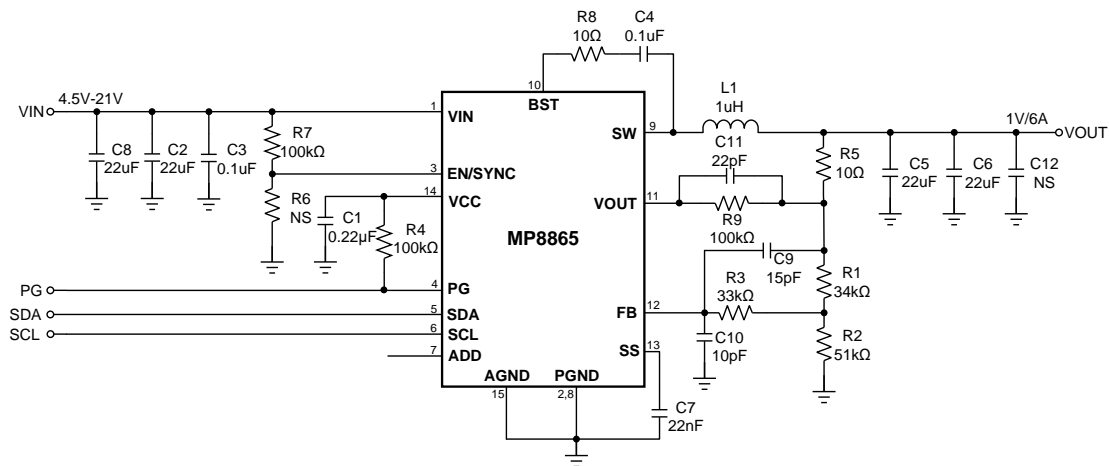

Figure 15. 12V Input-1V/6A Output
- 11) The recommended layout is based on Fig. 15 in the "Typical Application Circuits" section on page 26.